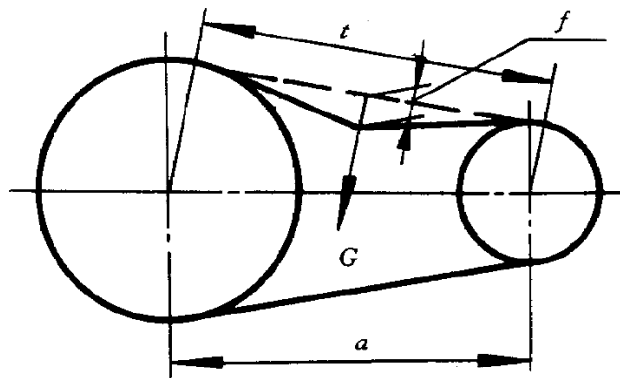

Figure 12-7 Timing belt installation deflection
- Step7. Adjust the position of the screw, adjust the timing belt to a suitable pretension and installation deflection (refer to Figure 12-7). The recommended pretension is 14.6N and the installation deflection is 2.6mm.